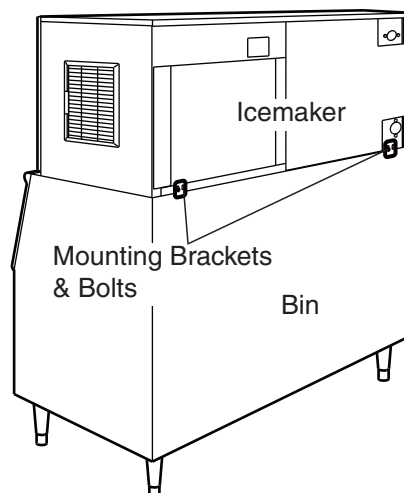

Fig. 2
- 9) Secure the icemaker to the storage bin using the two mounting brackets and the bolts provided. See Fig. 2.